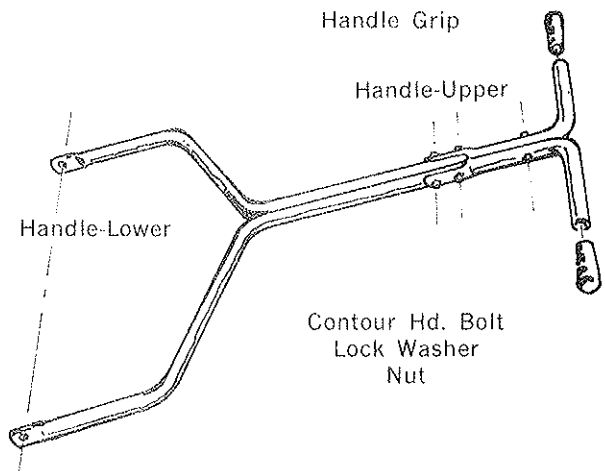

Figure 8
- Fig. 8 - Using the Bolts, Washers and Nuts called for, assemble the Handle, leaving the Bolts loose. Slip the Handle Grips on the Upper Handles.